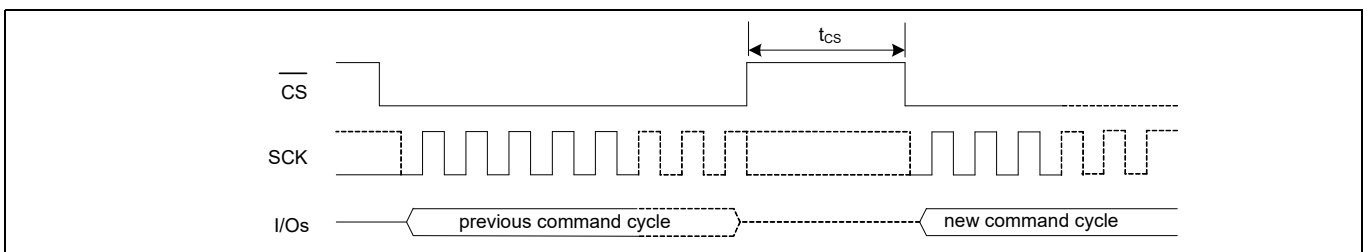

Figure 116 Chip deselect (\overline{CS} HIGH) - t_{CS} timing
23. t_{CS} is the minimum chip deselect (\overline{CS} HIGH) time before the new command cycle starts in a specific SPI mode (SPI, DPI, or QPI). This parameter ensures that previous operation is successfully completed before the host starts a new command cycle. Refer to **Figure 116**.
23. t_{CS} is the minimum chip deselect (CS HIGH) time before the new command cycle starts in a specific SPI mode (SPI, DPI, or QPI). This parameter ensures that previous operation is successfully completed before the host starts a new command cycle. Refer to **Figure 116**.
28. t_{CS} is the minimum chip deselect (CS HIGH) time before the new command cycle starts in a specific SPI mode (SPI or QPI). This parameter ensures that previous operation is successfully completed before the host starts a new command cycle. Refer to **Figure 116**.